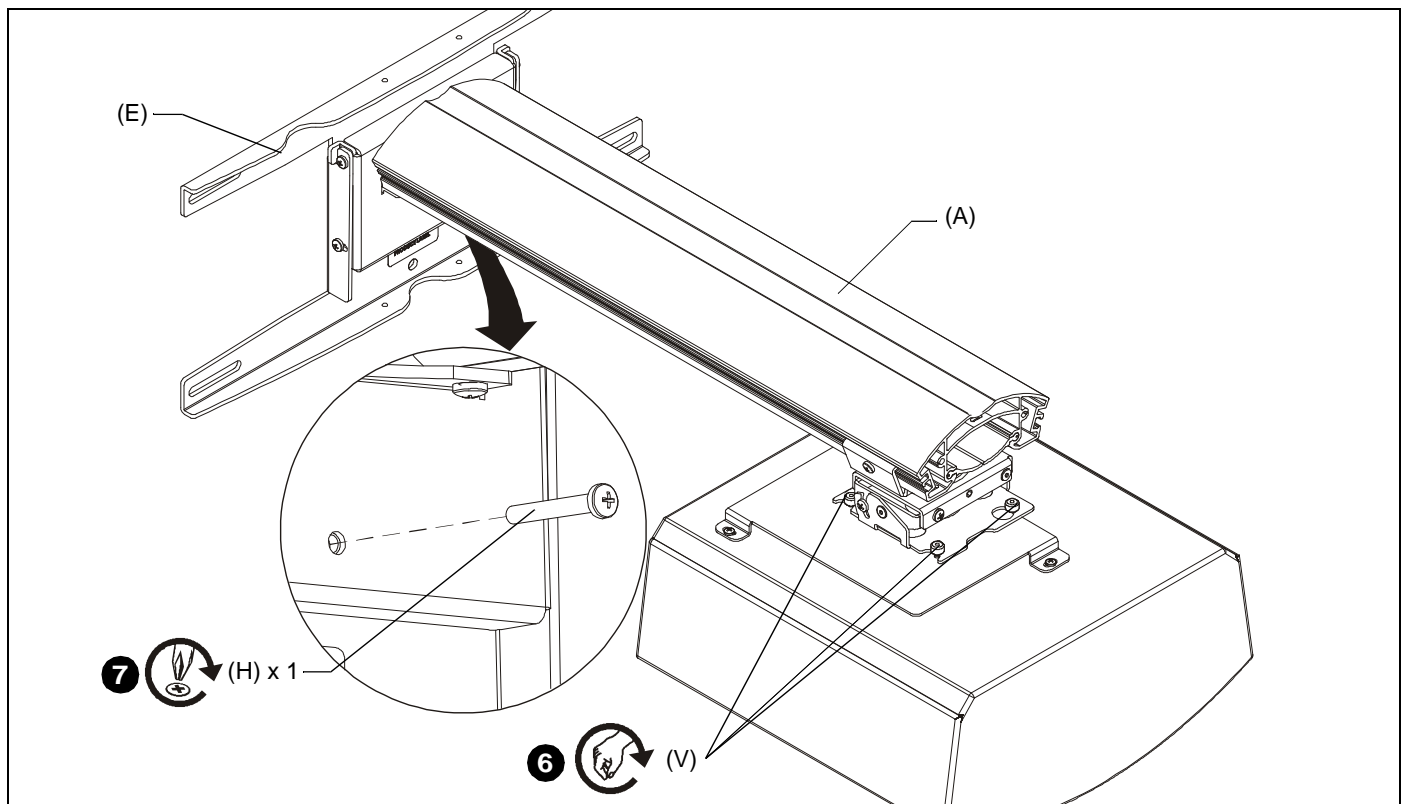

Figure 14
6. Turn thumb nuts until tight to secure projector to projector arm. (See Figure 14)
7. Tighten the M5x35mm button head cap screw (H) on the wall plate (E). (See Figure 14)